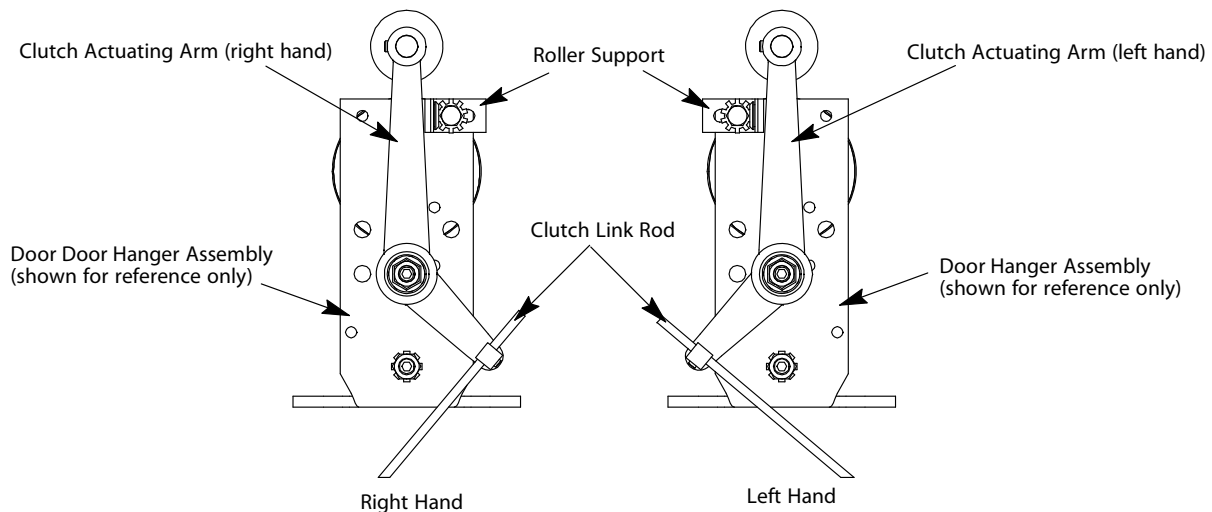

Figure 3 - Clutch Arm and Roller Support to Door Hanger
2. Attach the clutch actuating arm and roller support to the door hanger. See Figure 3.